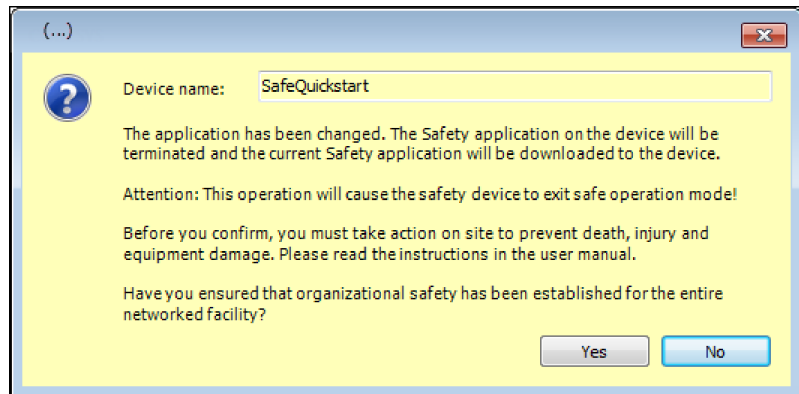

Fig. 80: Dialog for logging in to a controller with a modified application
- If the current application has been changed, a dialog asks whether the application on the safety controller should be terminated and the current application loaded to the safety controller (see Fig. 80). If this current application is loaded to the safety controller (download), then the safety controller is in **debug mode**. The application is in online mode.